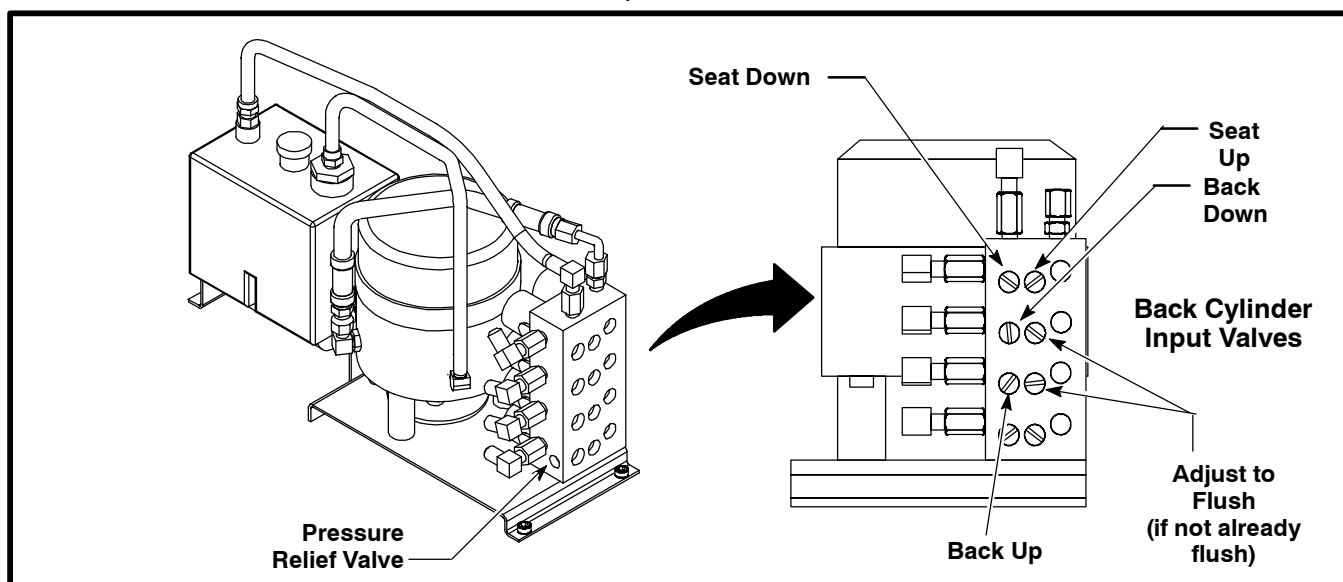

Figure 3-2. Manifold Adjustment Screw Locations
8. Using a flat blade screwdriver, make the following adjustments to the hydraulic manifold. Refer to Figure 3-2 and proceed as follows: